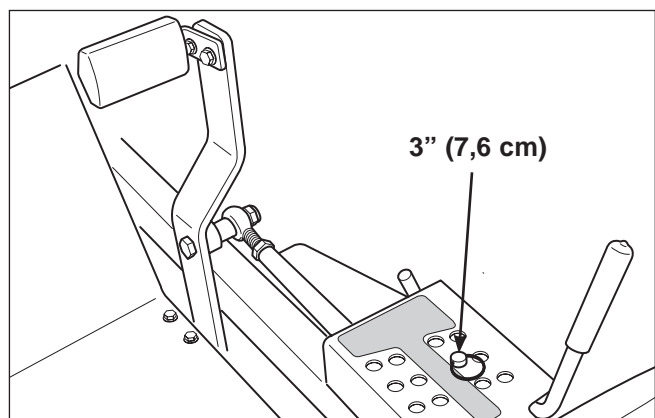

Figure 47. Deck Lift Pedal & Pin Position
5. Refer to Figure 47. Lock the deck lift pedal in the 5" (12,7 cm) position. Remove the cutting height adjustment pin and lower the mower deck.